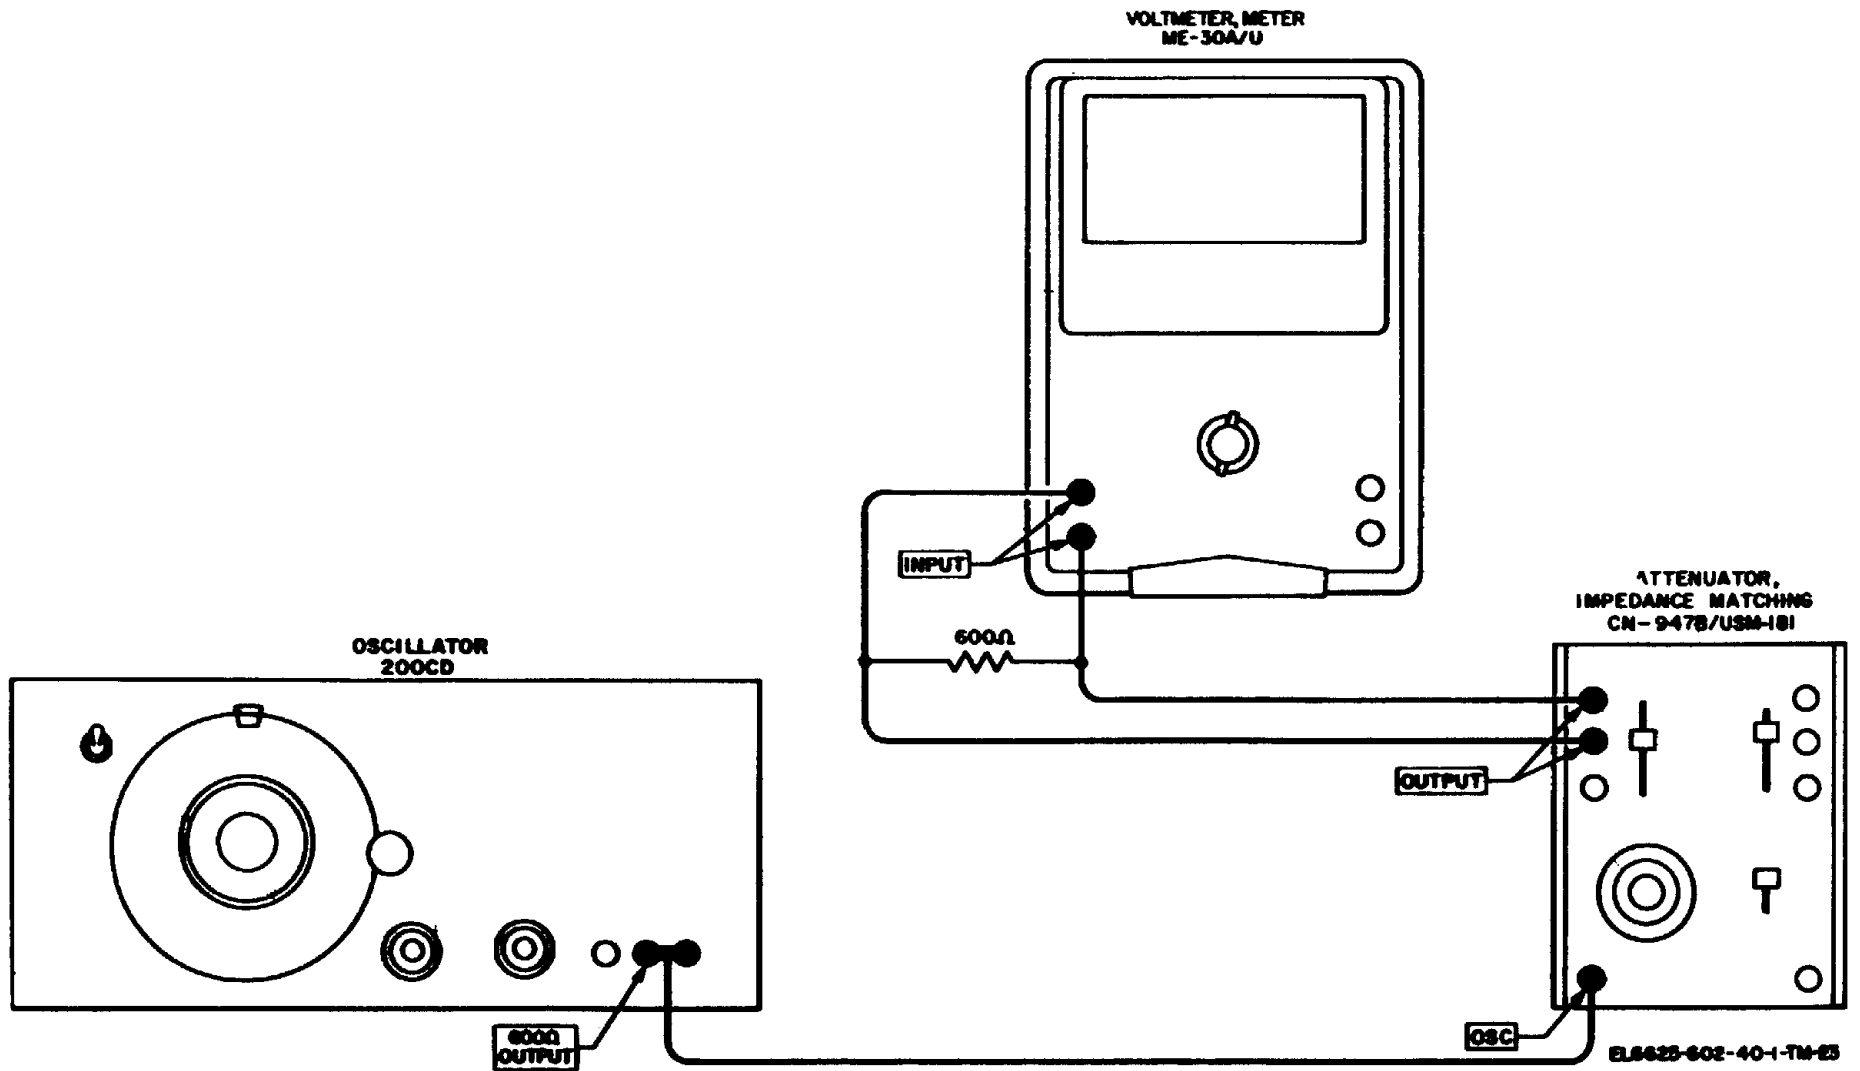

Figure 5-5. Attenuator, Impedance Matching CN-947B/USM-181 output insertion loss test.
b. *Test Connections and Conditions.* Connect the equipment as shown in figure 5-5.